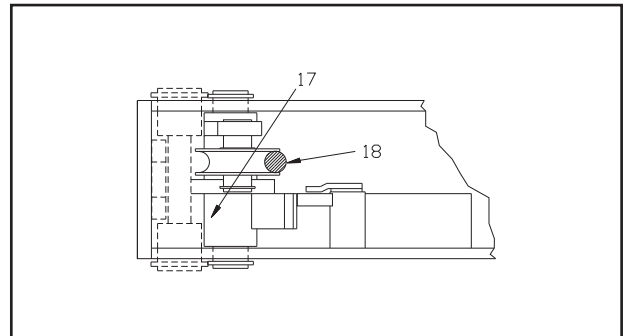
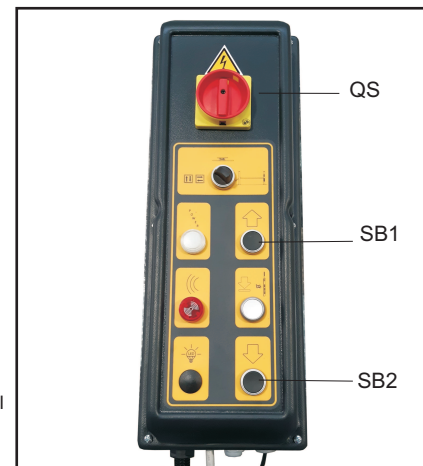
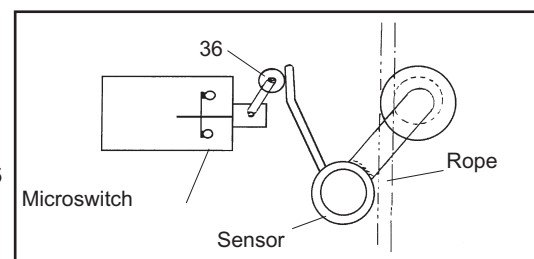

Fig.48 Positioning of lifting cable sensors
Fig. 53 Control panel
Fig. 55
Fig. 42: screw the nuts (25) and washers (26) onto the terminal blocks (19). During this procedure make sure that the sensors (17) are correctly positioned on the lifting cables (18) as shown in figure 48
Before operating with the lifter check that the cables are in correct position on the pulleys. Close the panel, put the switch (QS) in pos. 1 and make the lift rise until clearing the wedges (A-B-C-D); then put the switch in position 0 and close them again. Put the main switch (QS in fig. 53) in position 1, press the lowering button (SB2) and check if the lift lowers. If this doesn't happen, check the adjustment of the four cable sensors (pos. 17, fig. 48) and, if necessary, adjust them by acting on the screw of the micro switch release lever (pos. 36, fig. 55).
Press LIFT button (SB1 in fig.53) and complete the lift cycle; during the cycle check that the cross-pieces slide freely and without undue rubbing friction (you may want to stop the lift motion every 20 or 30 cm to make this inspection easier).